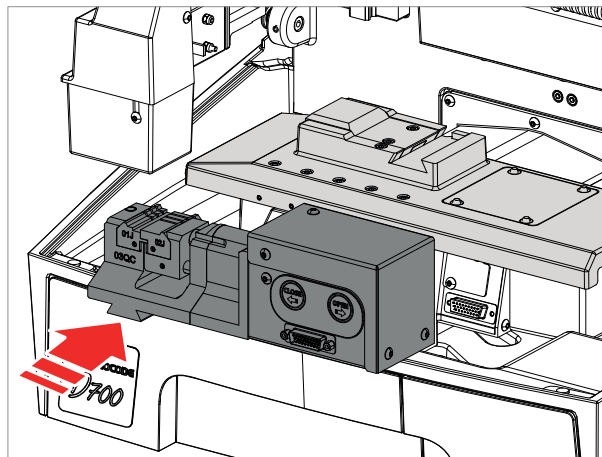

Fig. 24
- 1) Fit the clamp into the special dovetail groove (Fig. 24).
- 2) Tighten the grub screw (N).